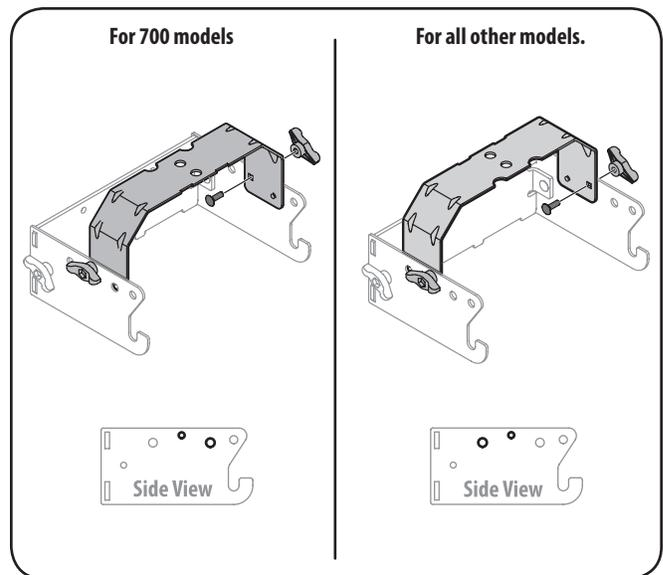

Figure 3-4
2. Flip over assembly and mount the hitch support bracket to the mounting assembly as shown in Figure 3-4.
Note: The holes closest to the mounting hooks are to be used for all 700 model series machines, while the two holes closest to the cross mount are for all other models. The hitch support bracket will need to be flipped to enable alignment of the proper holes depending on the model of machine this weight kit is being installed on. See Figure 3-4.